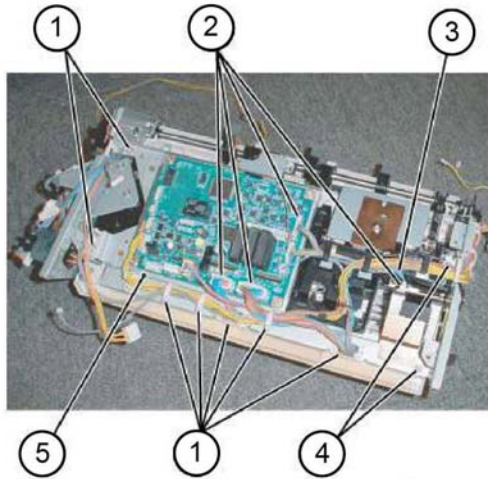

Figure 2 Bottom plate removal
5. Remove the bottom plate, **Figure 2**:
- a. Release the harness from the 5 clamps (1).
- b. Disconnect eight connectors (2).
- c. Remove the harness from the retainers (3).
- d. Remove four screws (4).
- e. Remove the bottom plate (5).